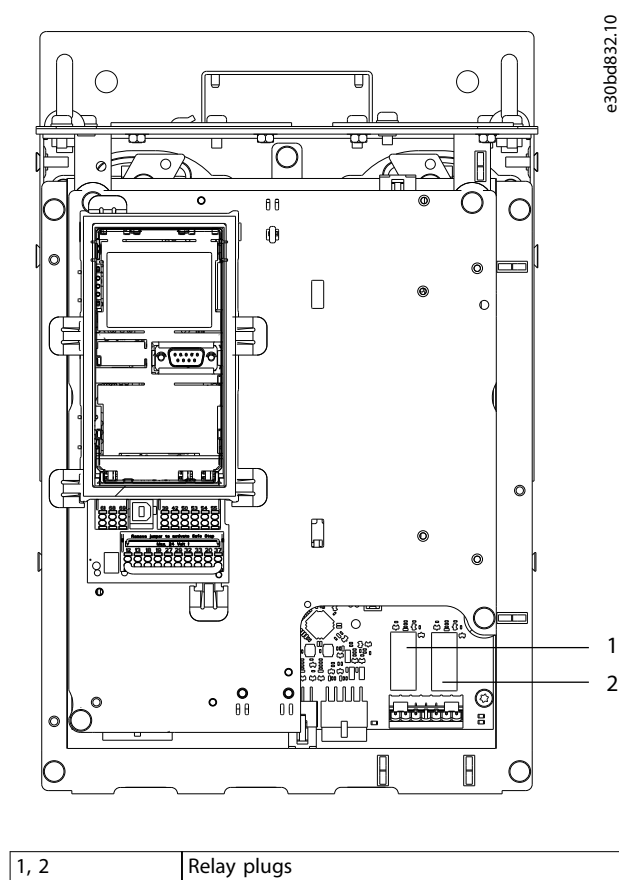

Figure 2.1 Location of Relay Plugs
- Remove all relay plugs marked *RELAY*. See *Figure 2.1*.